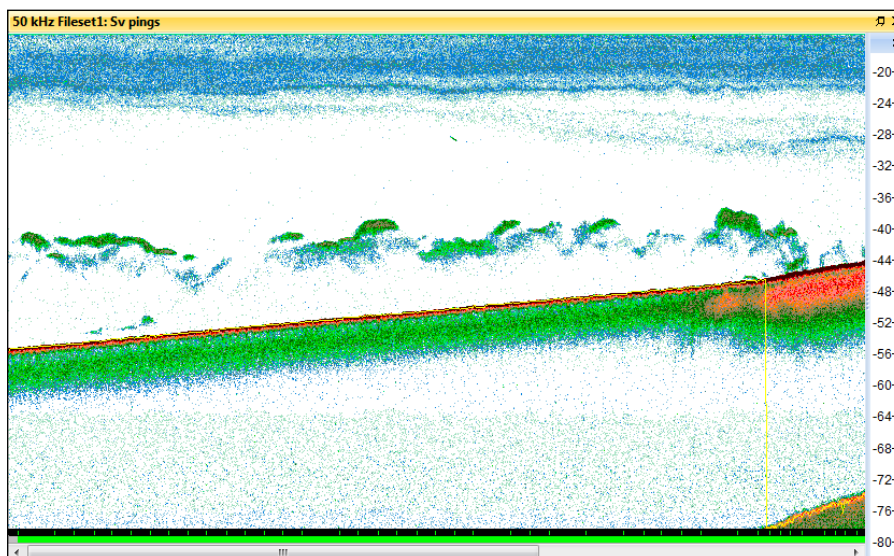

Figure 14. The sounder detected bottom line on the Sv pings echogram is shown in yellow.
7. Toggle the checkbox for **Fileset1: line data sounder-detected bottom** and click **OK**. This closes the Variable Properties dialog box and displays the sounder detected bottom line in the echogram. This is shown in Figure 14.